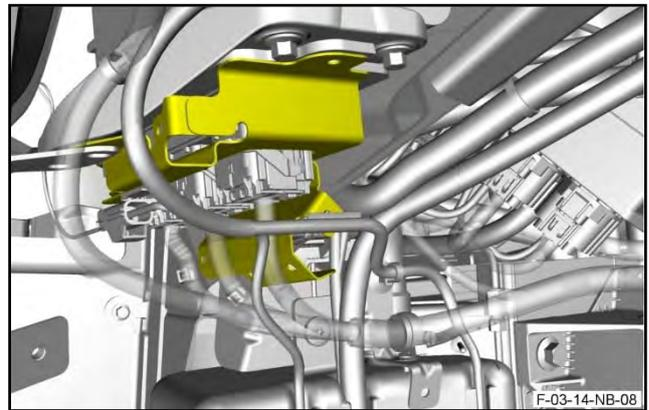

Figure 8
14. Release the PCM bottom bracket (refer to Figure 8).